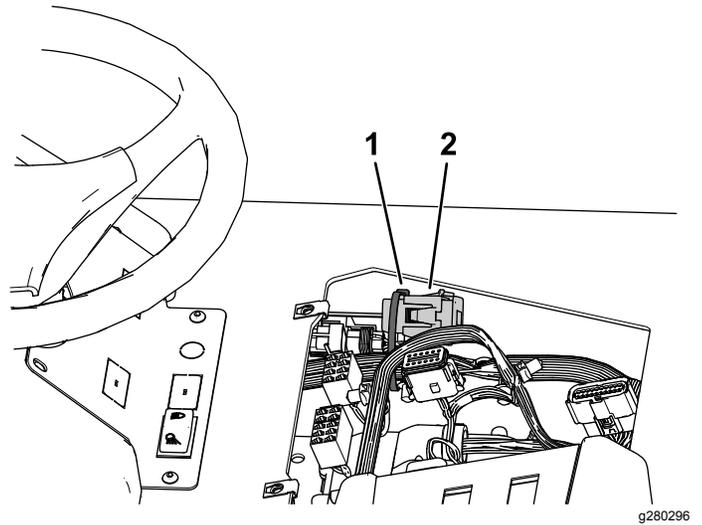

Figure 15
2. Connect the end of the wireless hour meter assembly to the portion of the dash wire harness labeled HR-METER found to the left of the control panel opening (Figure 15).
3. Secure the wireless hour meter to the wire harness using the cable tie (Figure 15).